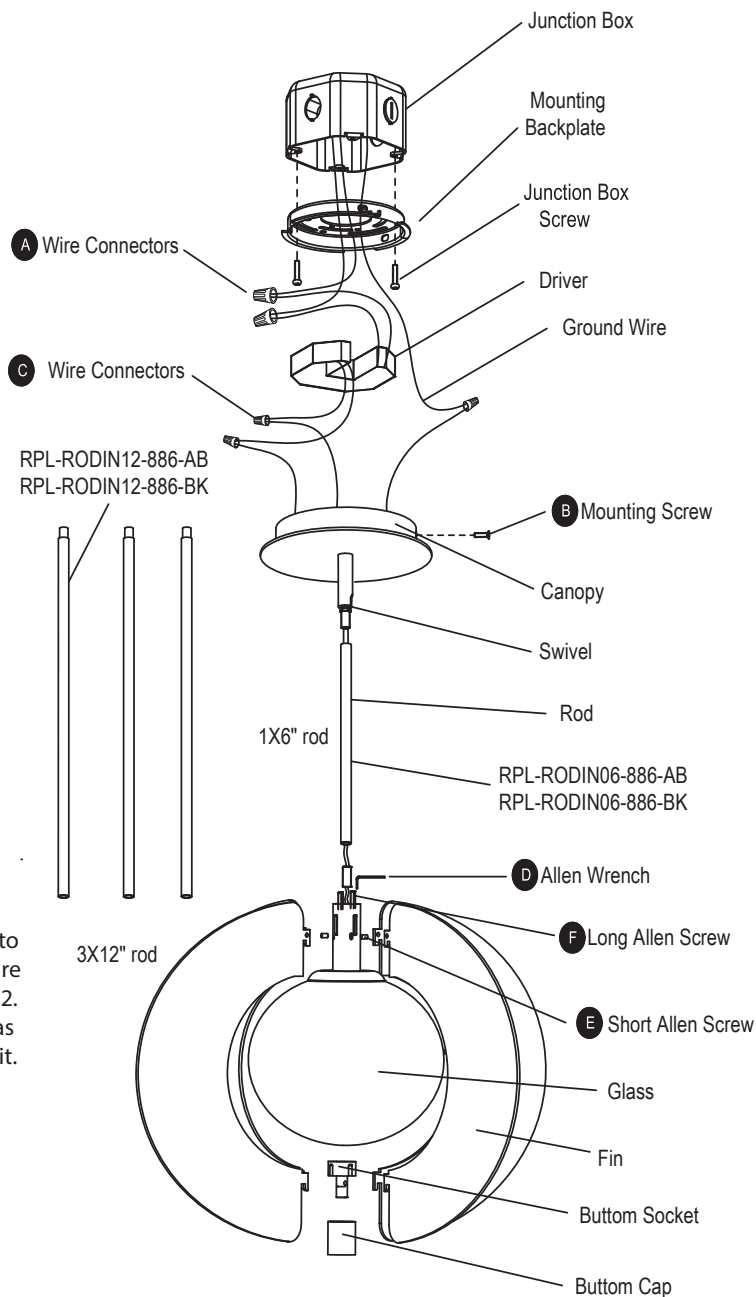

FIG. 2 Wiring
CONNECTING THE WIRES (Fig. 2)
8. Cut the extra wire thread from the fixture. Connect the driver input wire with junction box as shown in Fig.2, make sure that all wire connectors (A) are secured. If your outlet box has a green or bare copper ground wire, connect the fixture's ground wire to it. Other wise, connect the fixture's ground wire directly to the back plate using the GND screw provided. After wires are connected, tuck them carefully inside the junction box.
10. Connect the driver output wire with fixture wire as shown in Fig. 3 .Red to the red, and black to the black, making sure that all wire connectors (C) are secured. Connect the driver input wires to junction box as shown in Fig. 2. Making sure that all wire connectors (A) are secured. If your outlet box has a green or barecopper ground wire, connect the fixture's ground wire to it. Otherwise, connect the fixture's ground wire directly to the back plate using the GND screw provided. After wires are connected, tuck them carefully inside the junction box.